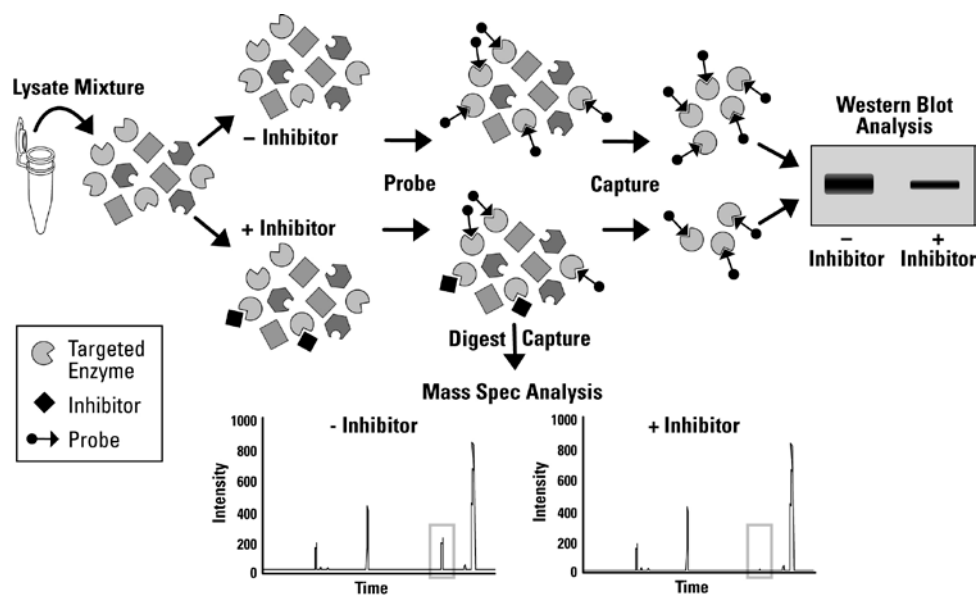

Figure 2. Western blot and mass spectrometry workflows enable targeted capture and analysis of enzymes using the active-site probes.
Assessment of active-site labeling can be accomplished by either Western blot or mass spectrometry (MS) (Figure 2). For the Western blot workflow, desthiobiotin-labeled proteins are enriched for SDS-PAGE analysis and subsequent detection with specific antibodies. For the MS workflow, desthiobiotin-labeled proteins are reduced, alkylated and enzymatically digested to peptides. Only the desthiobiotin-labeled, active-site peptides are enriched for analysis by LC-MS/MS. Both workflows can be used for determining inhibitor target binding, but only the MS workflow can identify global inhibitor targets and off-targets.^{1,3}